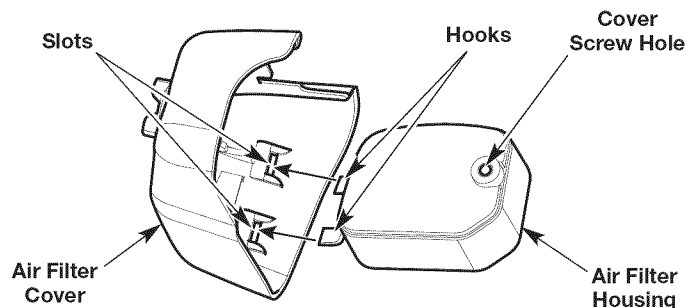

Fig. 23
6. Reinstall the air filter in the air filter housing (Fig. 23).
7. Insert the hooks on the air filter housing into the slots on the air filter cover (Fig. 23).
8. Swing the air filter cover to the right and align the cover screw with the cover screw hole (Fig. 23). Tighten the cover screw to secure the air filter cover.